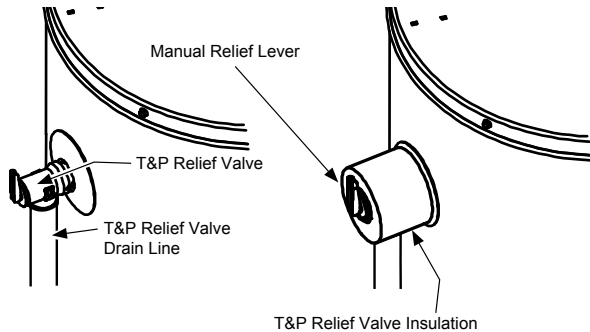

FIGURE 11.
1. Locate the temperature and relief valve on the water heater (also known as a T&P Relief Valve, Figure 11).
3. Spread this slit open and slip it up under the T&P Relief Valve. See Figure 11. Apply gentle pressure to the insulation to ensure it is fully seated on the T&P Relief Valve. Once sealed secure the insulation with a section of duct tape, electrical tape, or equivalent. **IMPORTANT:** The insulation or tape must not block the discharge opening or hinder access to the manual relief lever. Ensure a discharge pipe is installed into the T&P valve discharge opening per the instructions manual.